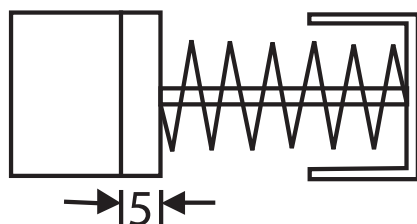

Fig. 6
3. **After 40 hours of use, check the carbon brush for replacement.** The carbon brush should be changed when it has been worn down to 5 to 6 mm by wear (see Fig. 6).